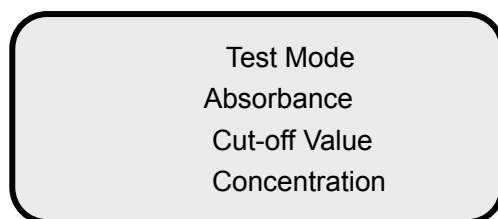

Fig. 7: Detection Mode
1. With the consideration that working wavelength of most items is 450nm, the default wavelength is 450nm. If the default value is consistent with the reagent specification, press **Enter** key directly and go to the sub menu (Fig. 7);
3. At this time, the symbol of **▲** is in front of **Continue**. If you want to continue programming, press **Enter** key to confirm. Then the interface of selecting detection mode (Fig. 7) appears. If you want to return to the main menu, press **Reset** key; if you want to return to the superior menu, press **▲** and **Enter** key;